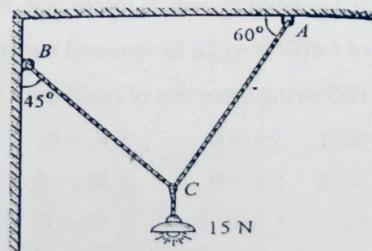

Fig 2.23
- 3) An electric light weighs 15N hangs from point C, as shown in fig 2.23. AC is inclined at 60° to horizontal & BC at 45° to vertical. Using Lami's theorem, find the forces in the strings AC & BC. (Ans: 10.98N, 13.44N)